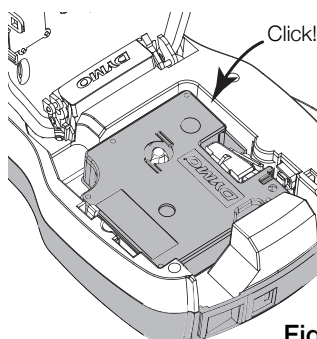

Figure 6
- 3 Insert the cassette and press firmly until cassette clicks into place. See Figure 6.